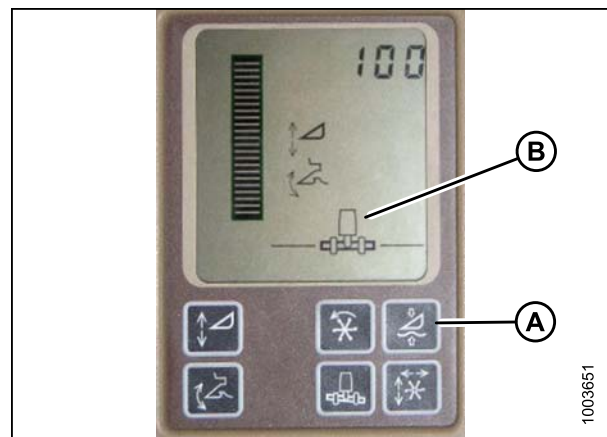

Figure 4.112: Combine Display
Do NOT use the active header float function (A) in combination with the MacDon Auto Header Height Control – the two systems will counteract one another. The header symbol (B) on the display should NOT have a wavy line under it and should appear exactly as shown on the Active Header Control Display in Figure 4.112: Combine Display, page 102.